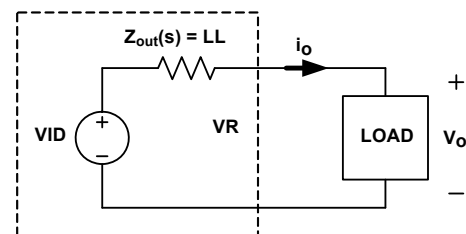

FIGURE 29. VOLTAGE REGULATOR EQUIVALENT CIRCUIT
Figure 29 shows the equivalent circuit of a Voltage Regulator (VR) with the droop function. A VR is equivalent to a voltage source (= VID) and output impedance $Z_{\text{out}}(s)$. If $Z_{\text{out}}(s)$ is equal to the load line slope LL, i.e., a constant output impedance, then in the entire frequency range, V_{o} will have a square response when I_{o} has a square change.